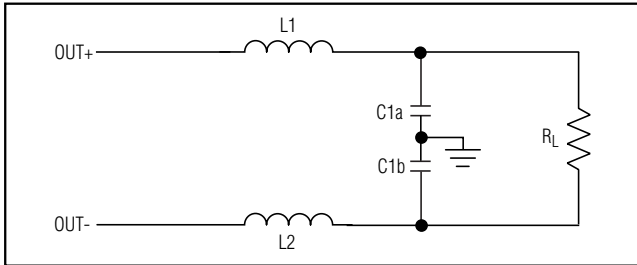
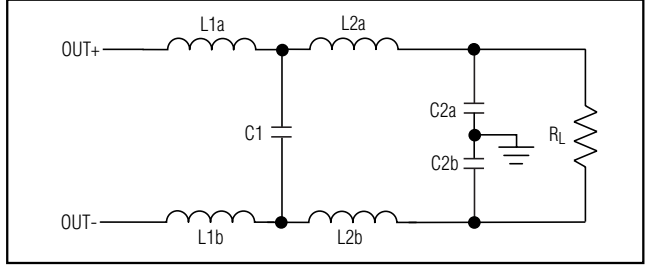

Figure 4b. Balanced 2-Pole Filter
Figure 4d. Balanced 4-Pole Filter
A Butterworth lowpass filter is chosen for its flat passband and nice phase response, though other filter implementations may also be used. Three examples are presented below. The filter parameters for balanced 2-pole (Figure 4b) and 4-pole (Figure 4d) Butterworth filters are taken from *Electronic Filter Design Handbook* by Arthur B. Williams, McGraw Hill, Inc. These filter designs assume that the load is purely resistive and load impedance is constant over frequency. Calculation of filter component values should include the DC resistance of the inductors and take into account the worst-case load scenario:
**• Balanced 2-Pole (Figure 4b):**
**• Balanced 4-Pole Filter (Figure 4d)**